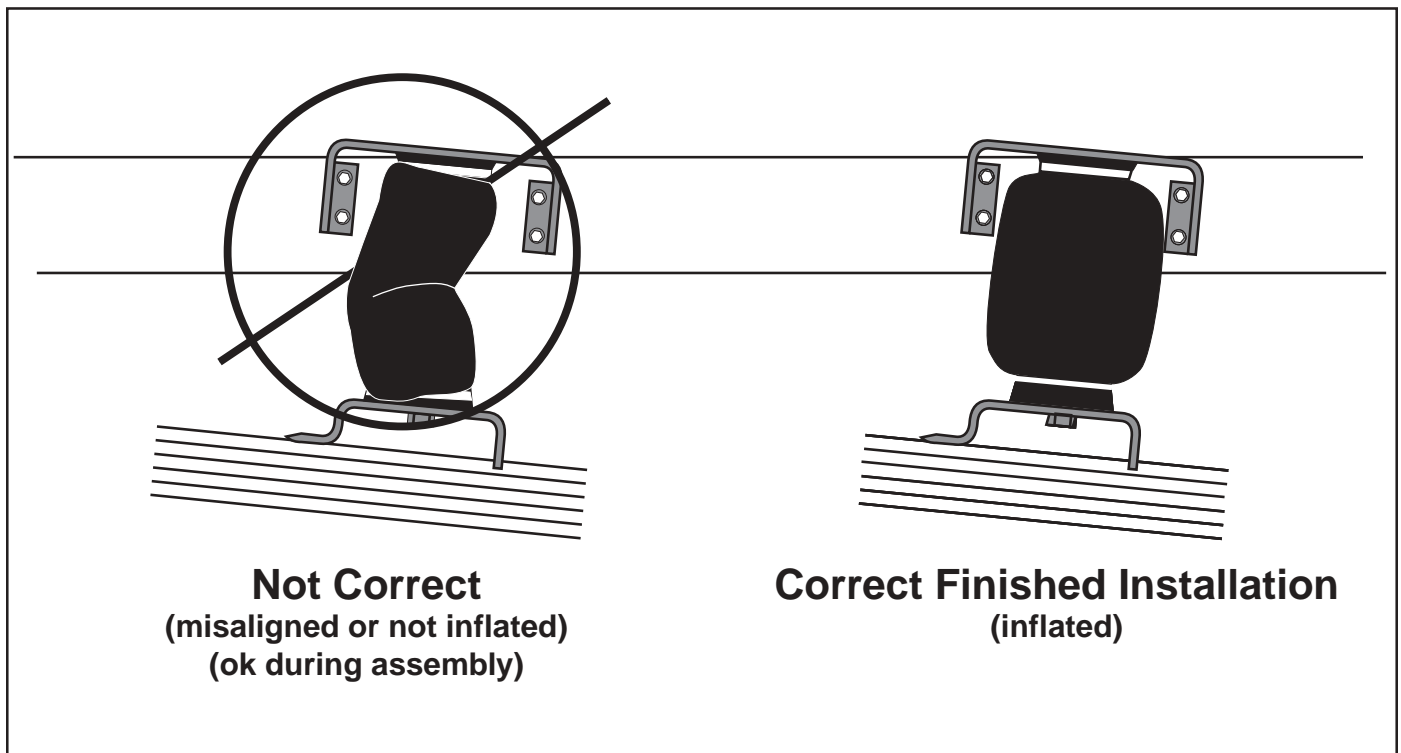

Figure 7
1. With the bottom still loose, inflate the air spring to approximately 10 p.s.i. By using the slotted adjustment in the lower bracket, align the air spring so that there is a symmetrical cushion of air around the lower base. This can be accomplished by pressing all around the air spring and tapping it inboard and outboard for proper alignment (Figure 7).